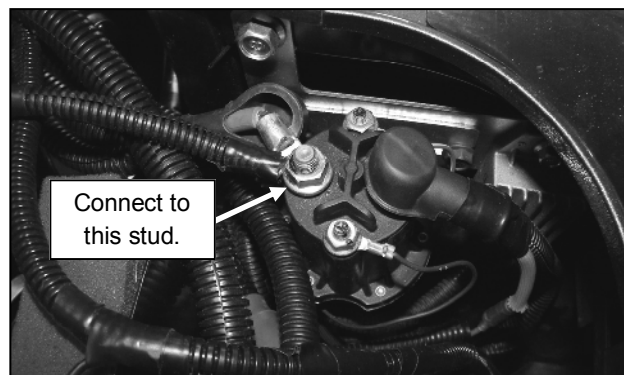

Fig. 4.7 (Solenoid Connection)
- 4.2 Install the standard relay (9SV-85-01-0022) (located in the alternator kit) into the relay socket 1 on the harness as shown in figure 4.7 on the following page.
- 4.7** Beneath the seat, find the vehicle solenoid. Connect the purple wire on the controller harness 9SV-WH-00089 to the vehicle solenoid. To help identify this wire, it has a 10-amp fuse near the ring terminal, and has a section of black wire at the fuse holder. Figure 4.7.